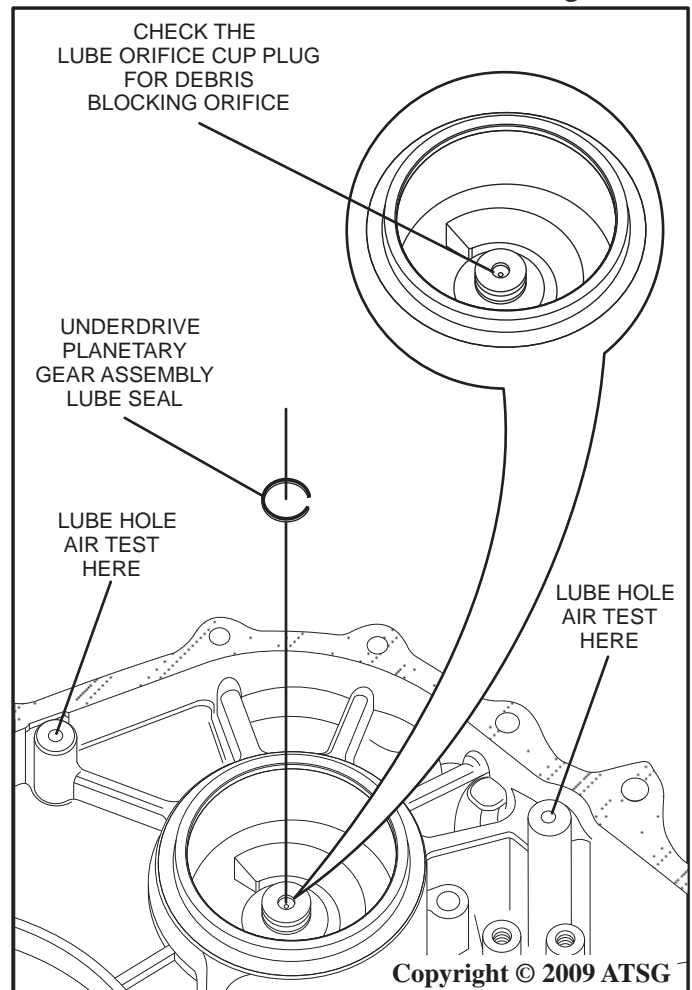

Figure 63
7. Remove the underdrive planetary gear assembly lube seal as shown in Figure 63.
9. Check the lube orifice cup plug for debris, and the two lube holes in the case by blowing a small amount of compressed air into the case as shown in Figure 63.
10. Install a new underdrive planetary gear assembly lube seal and coat with a small amount of Trans-Jel® as shown in Figure 63.